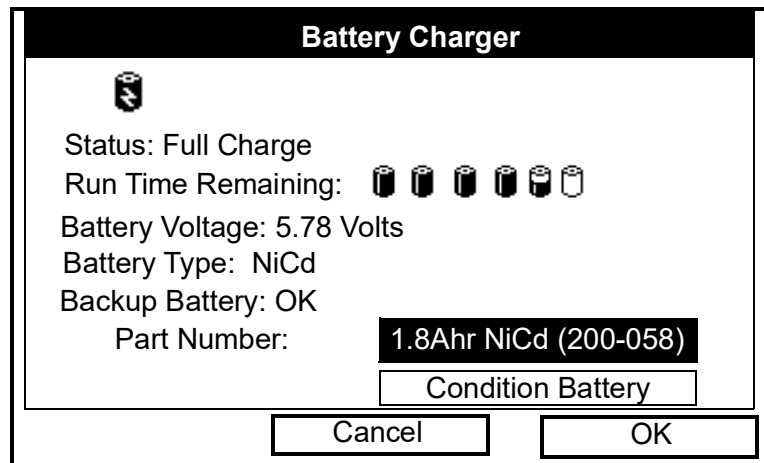

Figure 105: The Battery Charger Window
1. From the Meter menu, scroll to the Battery entry and press **[ENTER]**. The Battery Charger window opens, as shown in Figure 105 below.